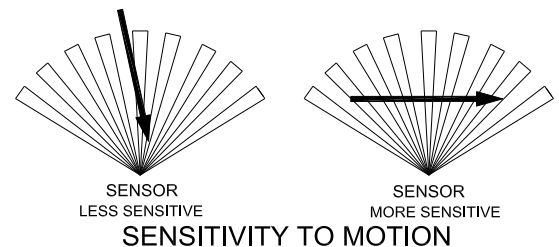

FIGURE 2
- Prior to mounting, keep in mind that the PIR sensor is more sensitive to a heat source moving across its coverage area and less sensitive to a heat source that moves directly towards the PIR sensor (FIGURE 2).